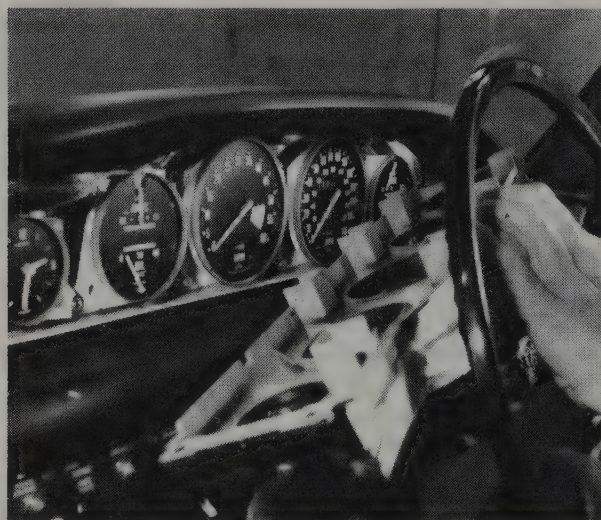

**Fig. 10.32. Instrument panel control knobs**
- 2 Pull off the speedometer trip control and panel light switch knobs (Fig.10.32). Unscrew the locking rings.